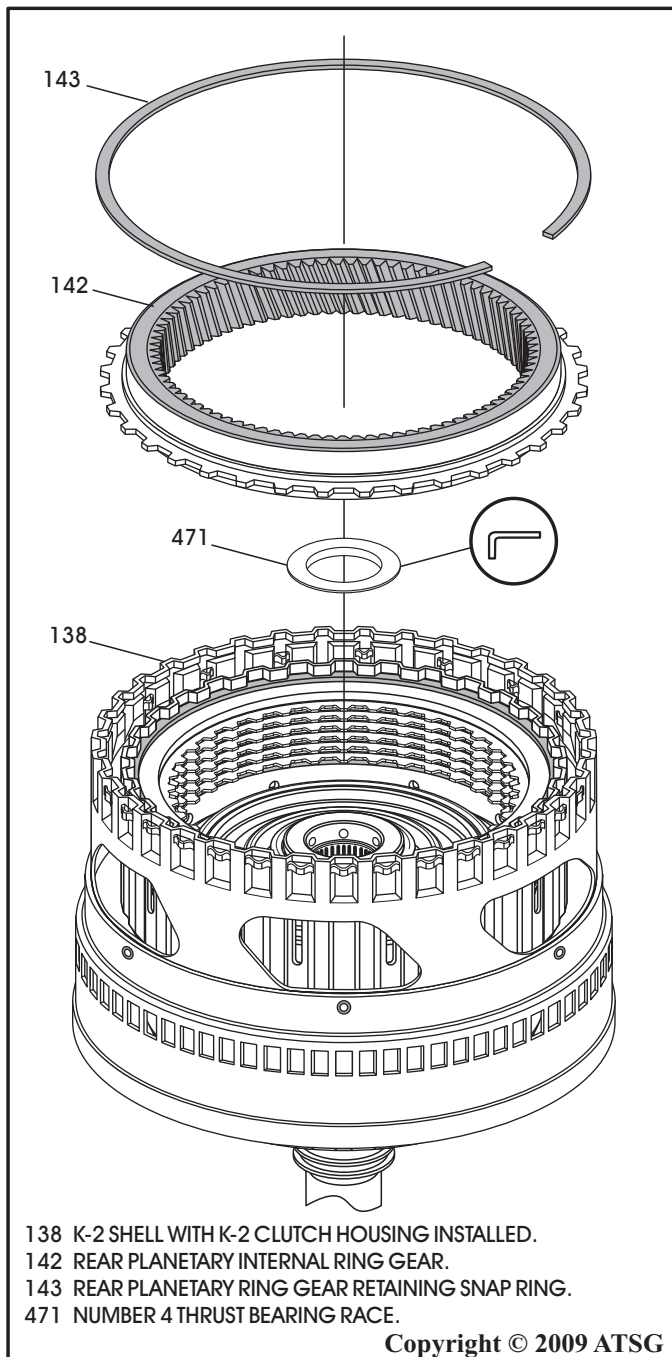

Figure 98
2. Remove the snap ring and rear planetary ring gear, as shown in Figure 98.